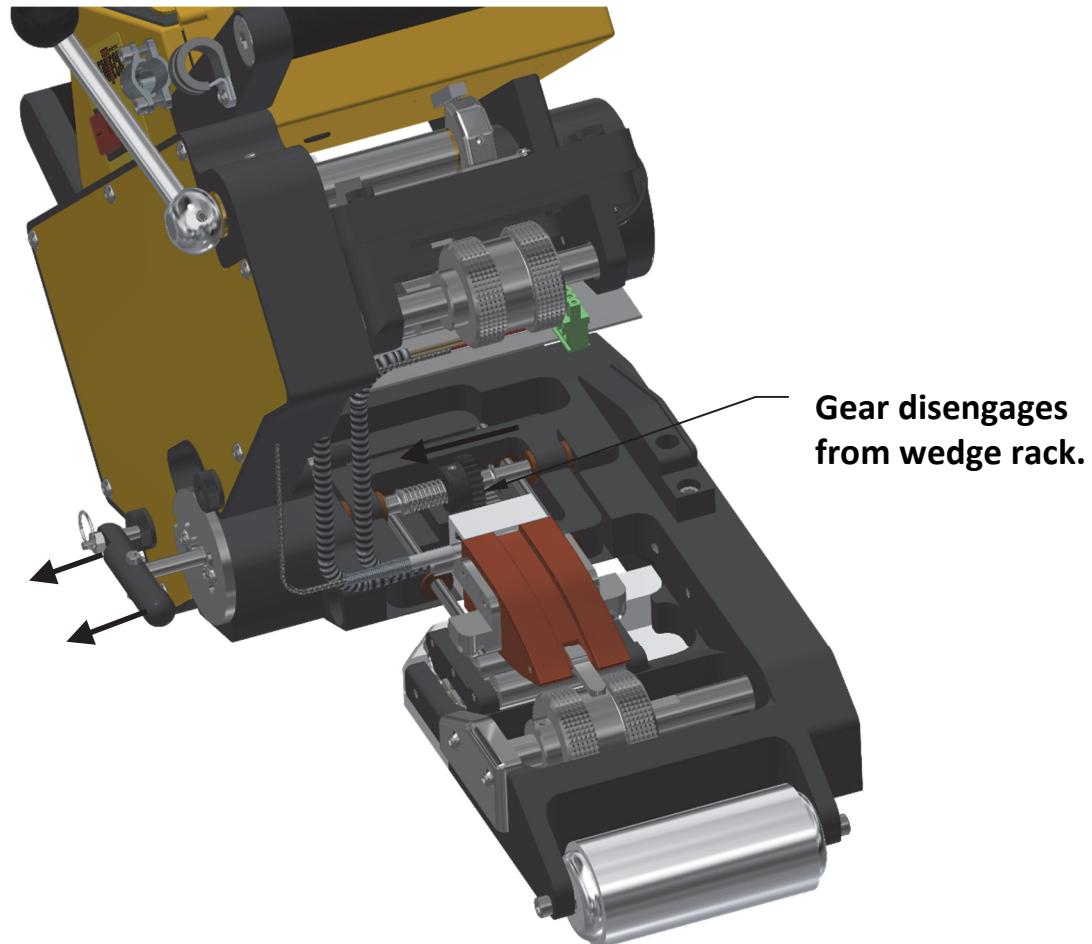

Figure 7
Loosen the two Lock-In Disc Hold-Down Screws (2) (see Figure 6). Position the Lock-In Disc so the two Hold-Down Screws are centered in the arced grooves of the Disc (see Figure 6). Tighten the Hold-Down Screws. Pull out the Engagement Handle as far as possible, approximately $5/8"$ (see Figure 7) which disengages the Pinion Gear from the Wedge Rack and rotate the Engagement Handle approximately 15 degrees clockwise. Release the Handle back in and rotate handle counter-clockwise moving the wedge towards the Nip Rollers. This resets the engagement of the Pinion Gear to the Wedge Rack by approximately one gear tooth. Repeat this process as many times as necessary until the Lock-In Plunger drops into the Lock-In Hole on the Lock-In Disc and the tip of the Wedge has approximately $1/8"$ clearance between it and the lower nip roller. The Wedge has now been re-timed.